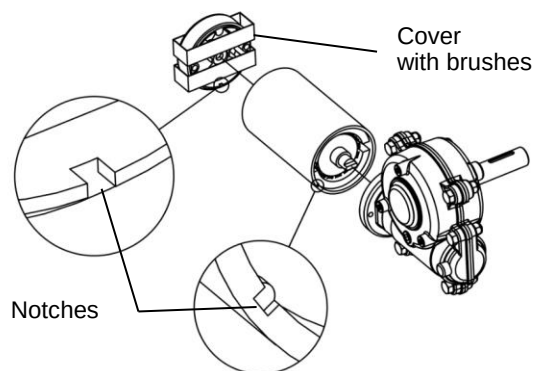

Figure 9
7. **Figure 9.** Install the cover with the brushes and ensure the notches are well aligned.